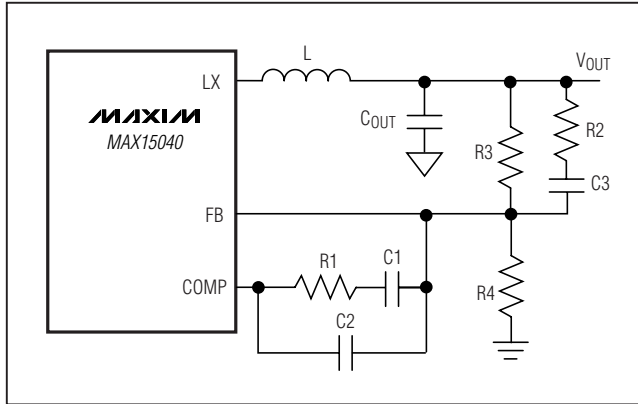
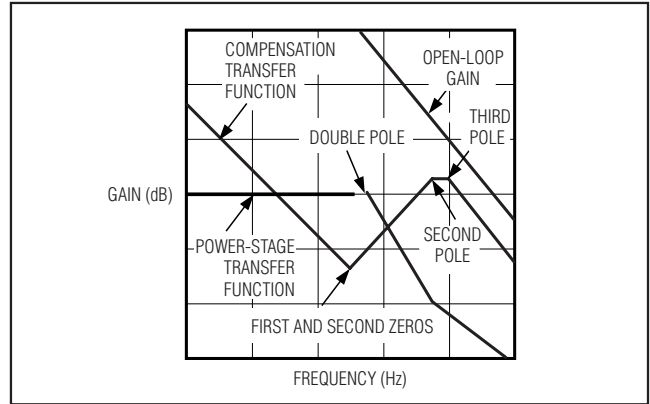

Figure 4. Type III Compensation Network
Figure 5. Type III Compensation Illustration
The MAX15040 high switching frequency allows the use of ceramic output capacitors. Since the ESR of ceramic capacitors is typically very low, the frequency of the associated transfer function zero is higher than the unity-gain crossover frequency,  $f_C$ , and the zero cannot be used to compensate for the double pole created by the output inductor and capacitor. The double pole produces a gain drop of 40dB/decade and a phase shift of 180°. The compensation network must compensate for this gain drop and phase shift to achieve a stable high-bandwidth closed-loop system. Therefore, use type III compensation as shown in Figure 4 and Figure 5. Type III compensation possesses three poles and two zeros with the first pole,  $f_{P1\_EA}$ , located at zero frequency (DC). Locations of other poles and zeros of the type III compensation are given by: